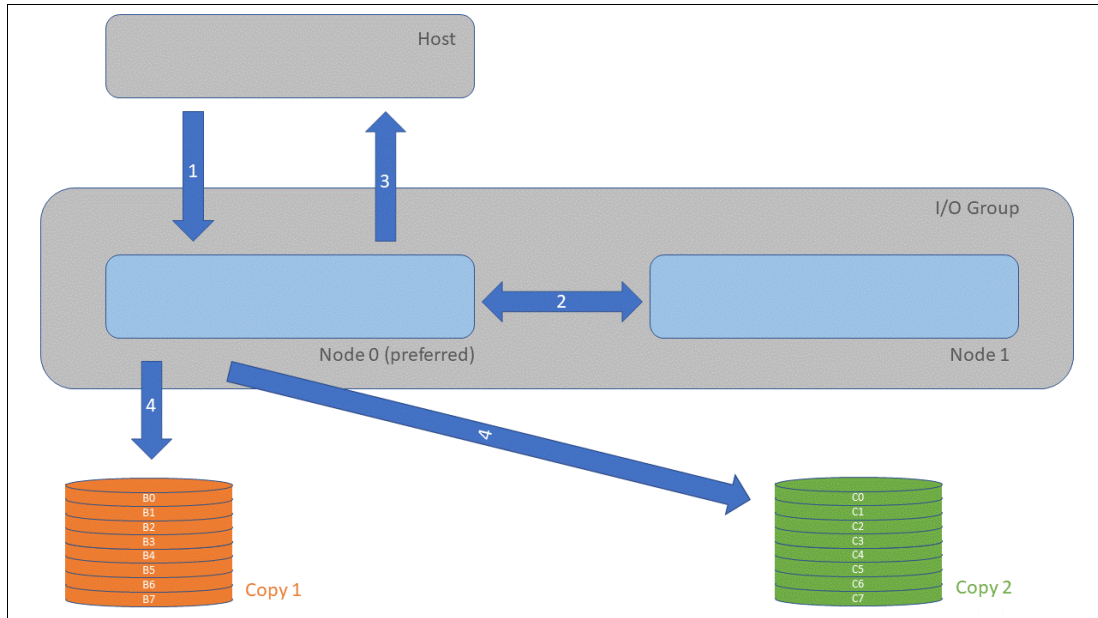
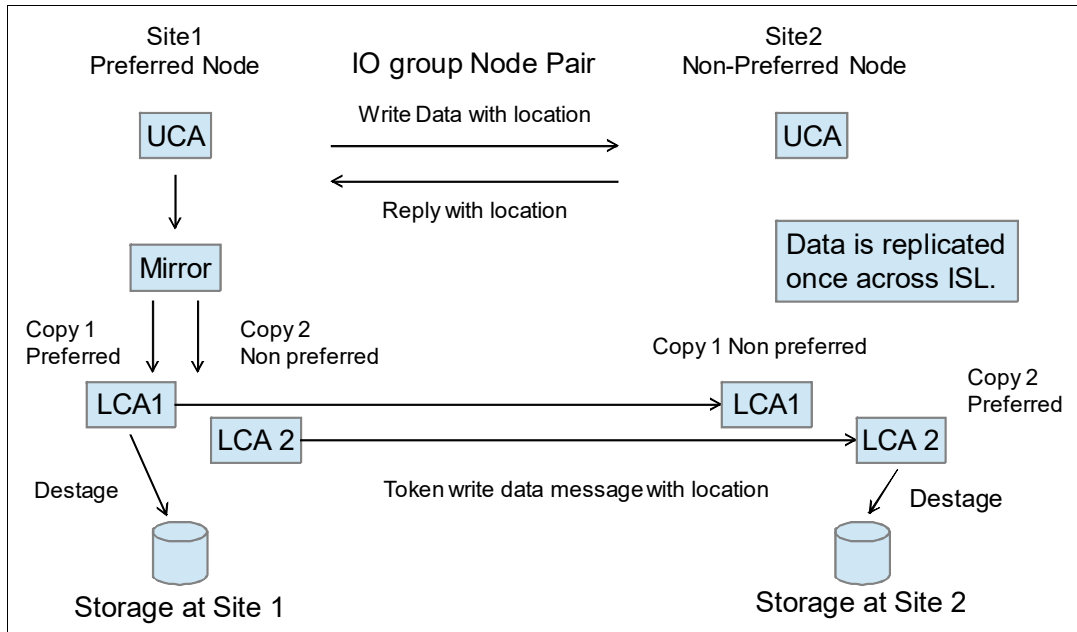

Figure 6-6 Data flow for write I/O processing in a mirrored volume
Figure 6-7 Design of an enhanced stretched cluster
The host sends all write I/O operation requests to any volume to the preferred node for this volume. The preferred node is responsible for destaging the data from cache to persistent storage. Figure 6-6 shows the data flow for this scenario.
As shown in Figure 6-6, the writes are sent by the host to the preferred node for the volume (1). Then, the data is mirrored to the cache of the partner node in the I/O group (2), and acknowledgment of the write operation is sent to the host (3). The preferred node then destages the written data to all volume copies (4). The example that is shown in Figure 6-7 on page 311 shows a case with destaging to a mirrored volume, that is, one with two physical data copies.
Figure 6-7 on page 311 shows the data flow in a stretched environment.